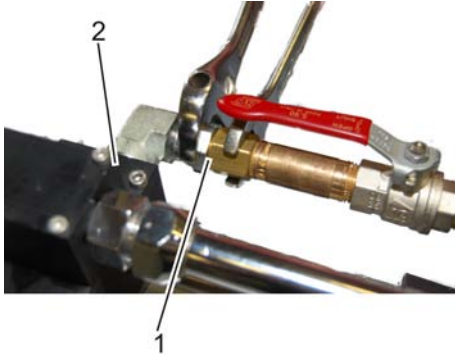

Fig. 30: Undoing the threaded union
3. ➔ Undo threaded union (Fig. 30/1) of compressed air control unit on control valve housing (Fig. 30/2).